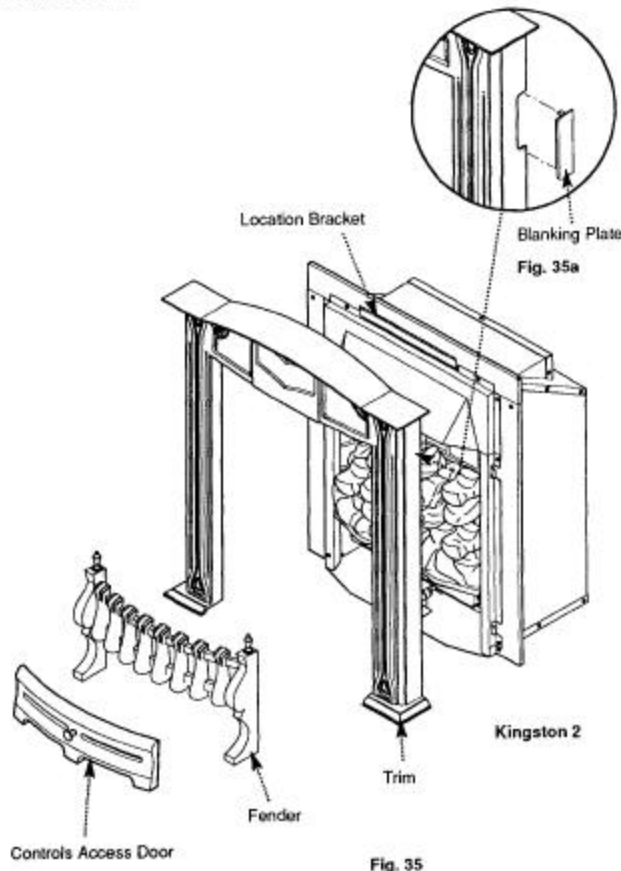

Fig. 35
**8.3 Kingston 2 Models (Fig. 35)**
2. Take the outercase location bracket from the kit and fasten it using the existing 2 screws to the canopy (Fig. 35). This will now mate with the bracket on the back of the trim.